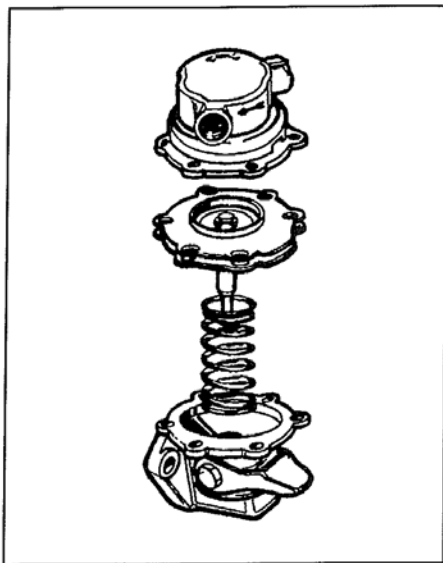

Figure 3 - Screen Strainer of the Fuel Lift Pump
- 1.) Remove the cover and seal from the top of the lift pump. (Fig. 3) Remove screen strainer.